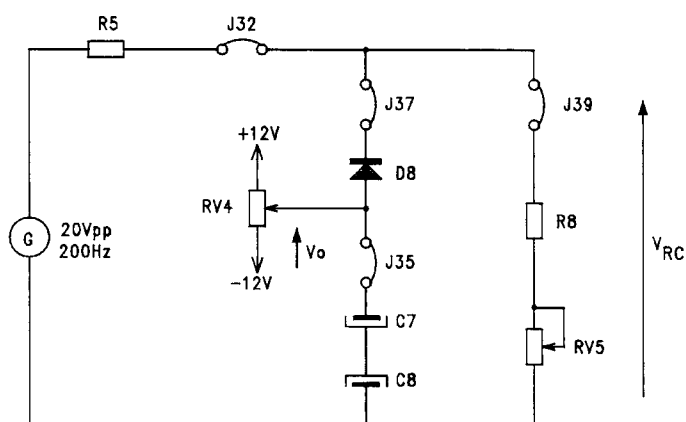

fig. B07.9
- Connect jumpers J32, J37, J35, J39 to produce the circuit of figure B07.9